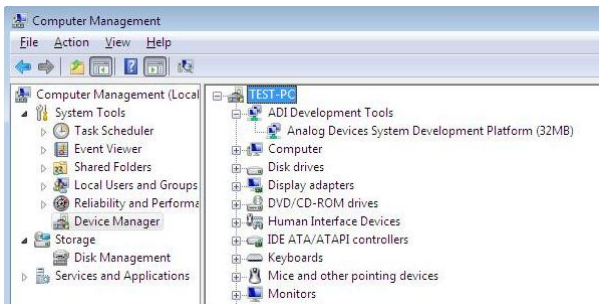

Figure 13. Device Manager: Checking that the Board Is Connected to the PC Correctly
- iii. The **Computer Management** box appears. From the list of **System Tools**, click **Device Manager** (see Figure 13).